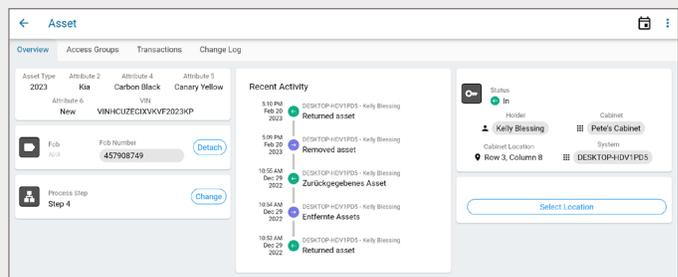

Fig. 151 – Asset details screen – asset with upcoming reservation
1. Select the **reservation card** to open the Asset details screen and view details about the asset, as shown in Fig. 151.